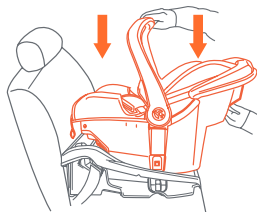

Fig. 45-1
2. Remove the Safety Seat from the base by squeezing the base release handle located under the center of the head end of the Safety Seat and lifting upward on the Safety Seat (See Fig. 24-1). **Store both UAS lower connectors as shown in Fig. 45-1.**
10. If you are using the Base, check that nothing is on top of the base, or anything that will interfere with the proper latching of the Safety Seat to the Base. Place the Safety Seat onto the Base and push down until the Safety Seat latches securely to the Base and you hear a click (Fig. 45-1). Pull upward on the Safety Seat to check that the Safety Seat is securely latched onto the base (Fig. 45-2).